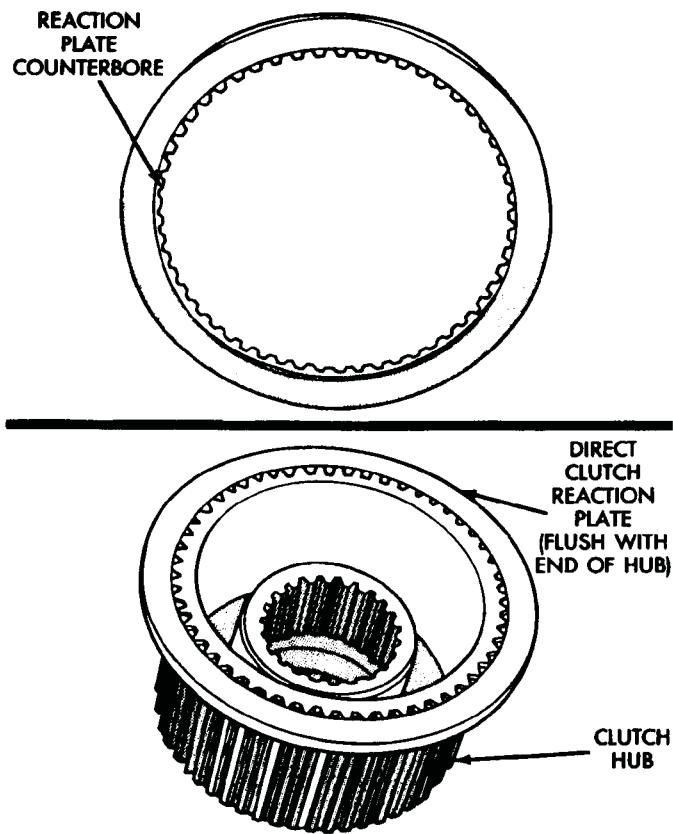

Fig. 57 Correct Position Of Direct Clutch Reaction Plate
(20) Install direct clutch reaction plate on clutch hub. Note that one side of reaction plate is counterbored. Be sure this side faces rearward. Splines at rear of hub are raised slightly and counterbore in plate fits over these splines. Plate should be flush with this end of hub (Fig. 57).
(21) Install remainder of direct clutch components as follows: